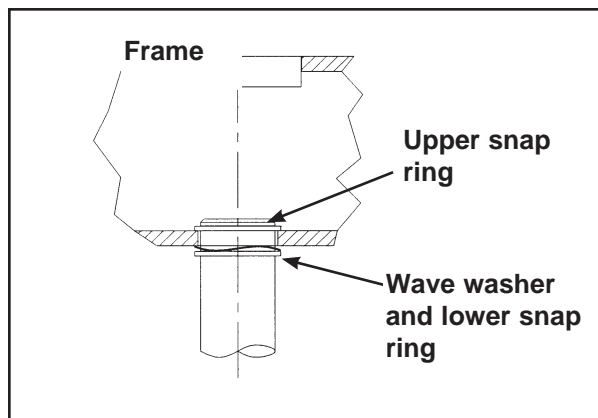

Figure 6A
5. Install Weight Stack (refer to steps 5A - 5N and Figures 6A - 8).